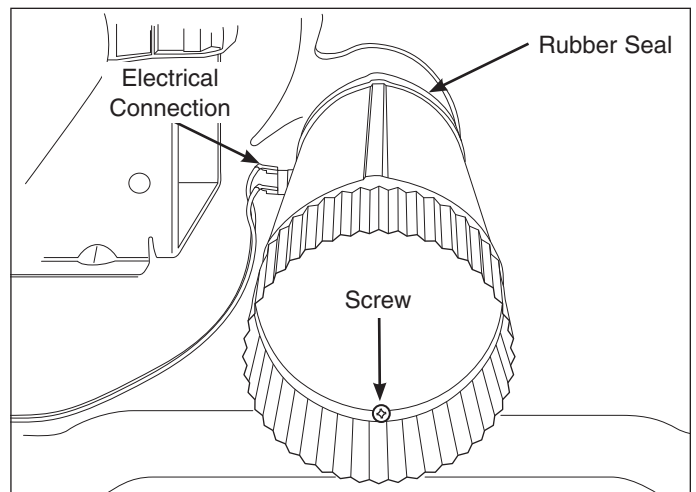

Figure 4-34.
2. Disconnect the wire leads from the exhaust thermal limiter terminals. Slide rubber seal onto the exhaust tube. (See Figure 4-34)